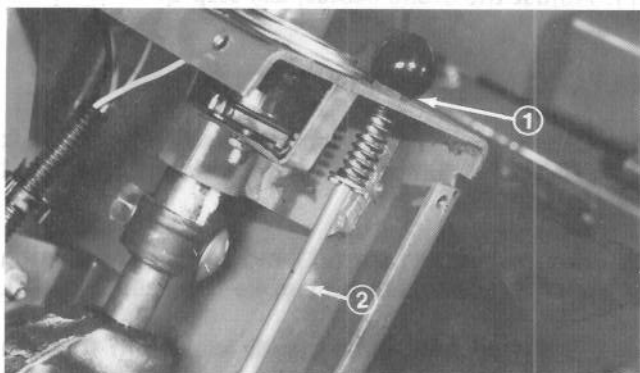

Figure 27
2. Screw knob and locknut off top end of the parking brake rod (Fig. 27).